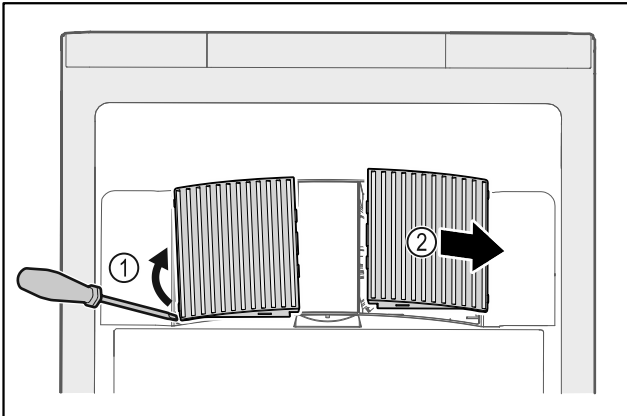

Fig. 186
- ▶ Carefully lever out fan covers from the side Fig. 186 (1) and remove towards the front Fig. 186 (2).